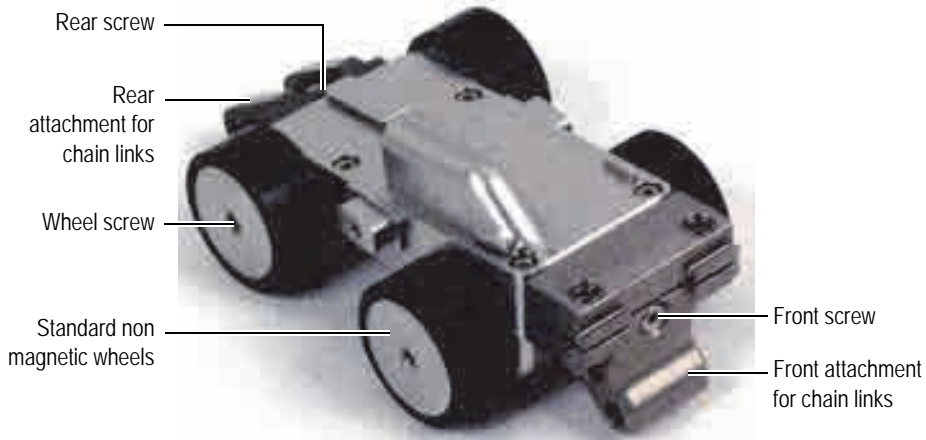

Figure 2-25 The main module equipped with the chain attachment
4. Use a hexagonal key or the supplied universal tool to unscrew the front screw securing the mouse front attachment for chain links (see Figure 2-25 on page 44).